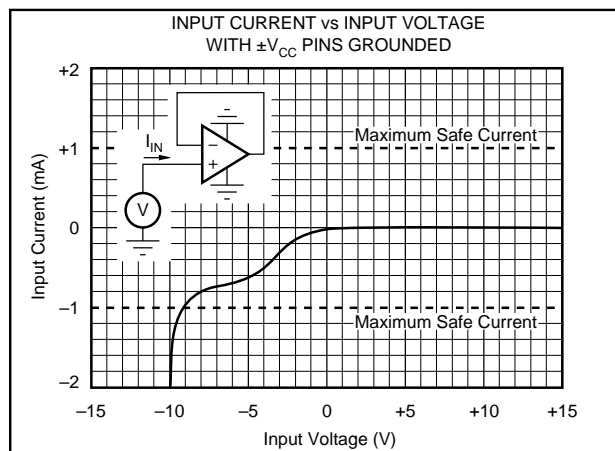

FIGURE 2. Input Current vs Input Voltage with  $\pm V_{CC}$  Pins Grounded.
NOTES: (1) Packages must be derated based on  $\theta_{JC} = 30^{\circ}\text{C}/\text{W}$  or  $\theta_{JA} = 120^{\circ}\text{C}/\text{W}$ . (2) For supply voltages less than  $\pm 18\text{VDC}$  the absolute maximum input voltage is equal to:  $18\text{V} > V_{IN} > -V_{CC} - 8\text{V}$ . See Figure 2. (3) Short circuit may be to power supply common only. Rating applies to  $+25^{\circ}\text{C}$  ambient. Observe dissipation limit and  $T_J$ .
Unlike BIFET amplifiers, the *Difet* OPA404 requires input current limiting resistors only if its input voltage is greater than 8 volts more negative than  $-V_{CC}$ . A 10kΩ series resistor will limit the input current to a safe value with up to  $\pm 15V$  input levels even if both supply voltages are lost. (See Figure 2 and Absolute Maximum Ratings).